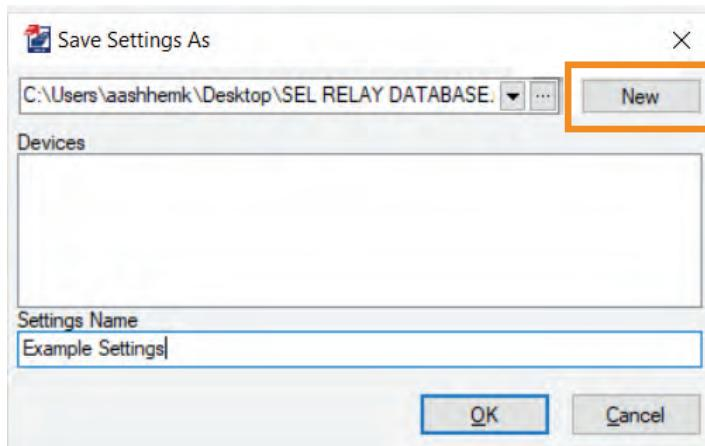

Figure 21 Saving a Settings File in a Database
- Enter a name for the settings file under **Settings Name** and then select **OK**. In *Figure 21*, the settings file named Example Settings is being saved in the database titled SEL RELAY DATABASE.